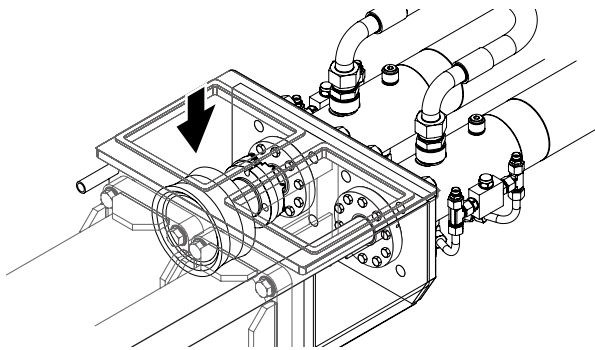

Figure 24
3. Hold the new ram up to the cylinder flange. Line up the grooves, and drop your nut and bolt into place to hold the assembly together (Figure 24). Tighten the nut only finger-tight.